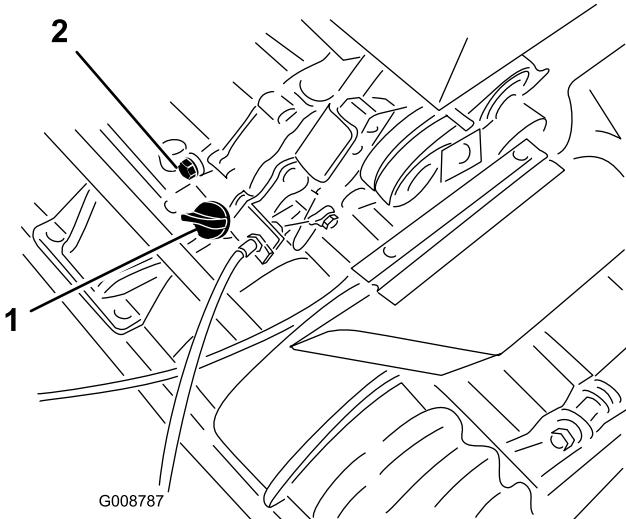

Figure 26
1. Position the mower so that the engine is level and clean around the oil level gauge (Figure 26).
2. Place a drain pan at the rear of machine, under the drain plug (Figure 26).